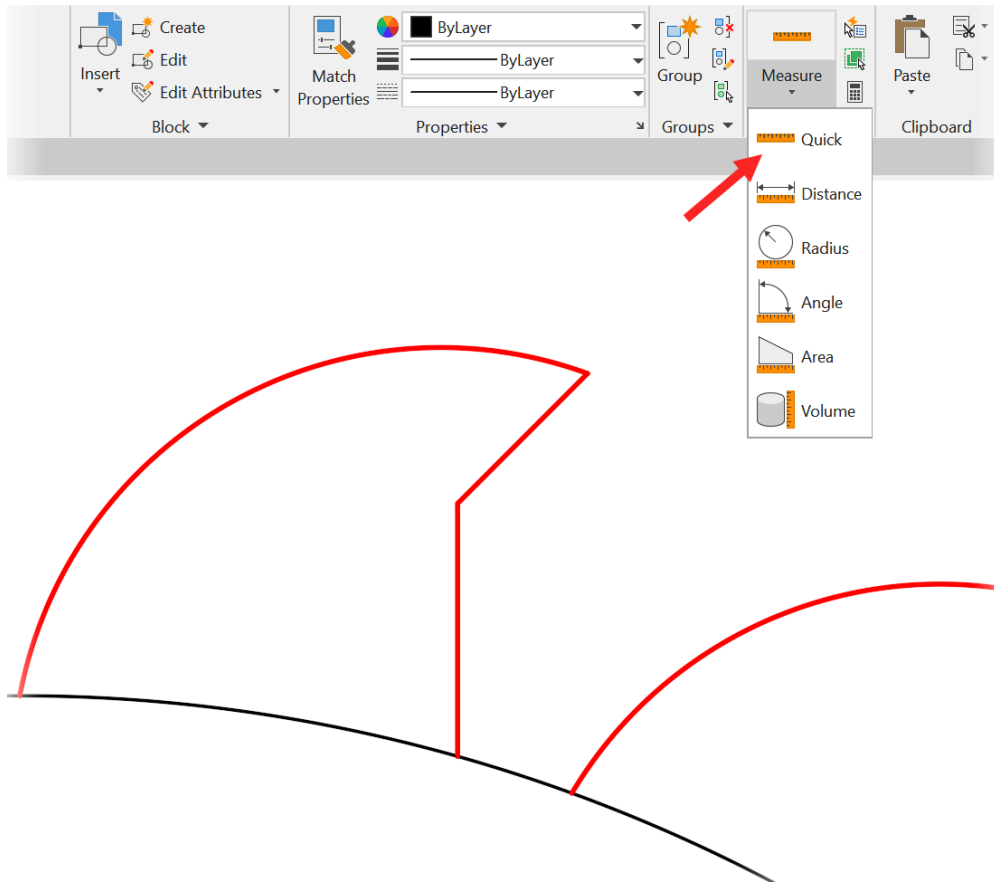

Figure 6.3: The Measure flyout with Quick Measure (arrowed)
2. On the **Home** tab on the ribbon, click on the **Measure** flyout on the **Utilities** panel. You will see **Quick (Quick Measure)**, as shown in *Figure 6.3*. Click on it.